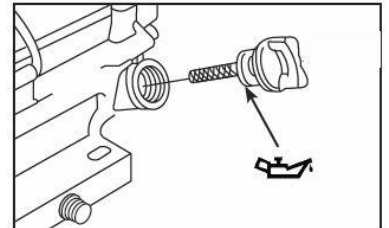

Fig. 3
2. Clean area around oil fill and remove oil fill cap/dipstick. (See Fig. 3)